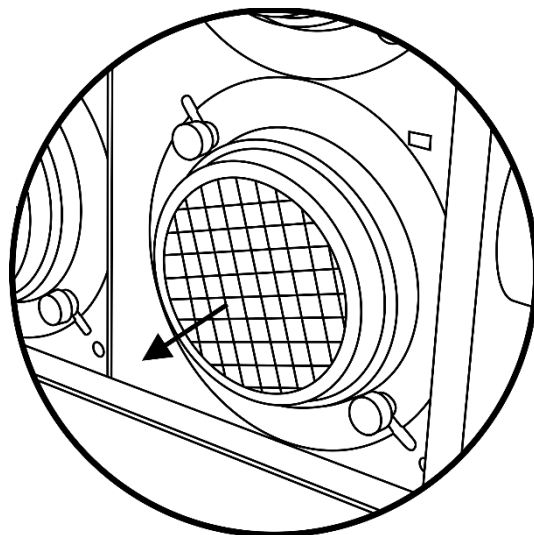

Fig. 04
- 02) Gently remove the metal lamp cover (Fig. 04).